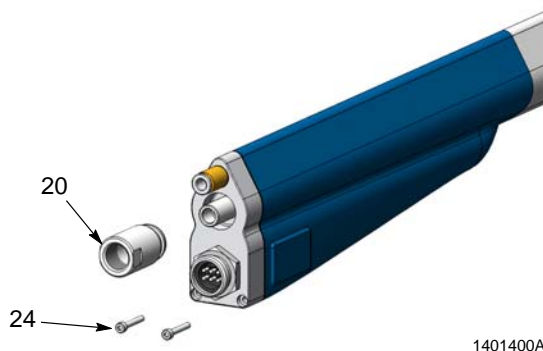

Figure 10 Removing Heat Sink Screws and Lock Nut
9. See Figure 10. Screw the lock nut (20) onto the powder tube and tighten it securely. Do not overtighten it or you may damage the plastic threads on the powder tube.
10. Install the two socket-head screws (24) in the heat sink and tighten them securely.